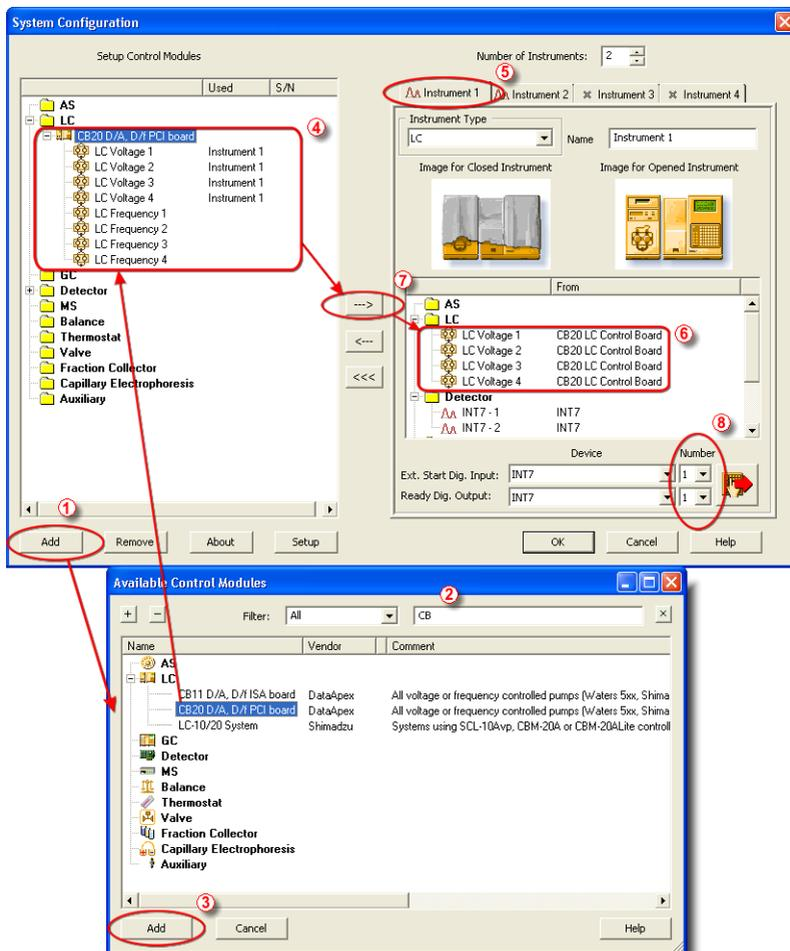

Fig. 2: System Configuration
- Press the *Add* button ① (see Fig. 2 on pg. 4.) to invoke the *Available Control Modules* dialog.
- You can specify the searching filter ② to simplify the finding of the driver.
- Go to the **LC** section, select the **CB20 D/A, D/f PCI board** and press the **Add** button ③ .
The *DataApex CB-20 Setup* dialog sets the parameters of the **CB20** LC control board. The dialog is accessible only from the *System Configuration* dialog, please see **Fig. 2** on pg. 4.